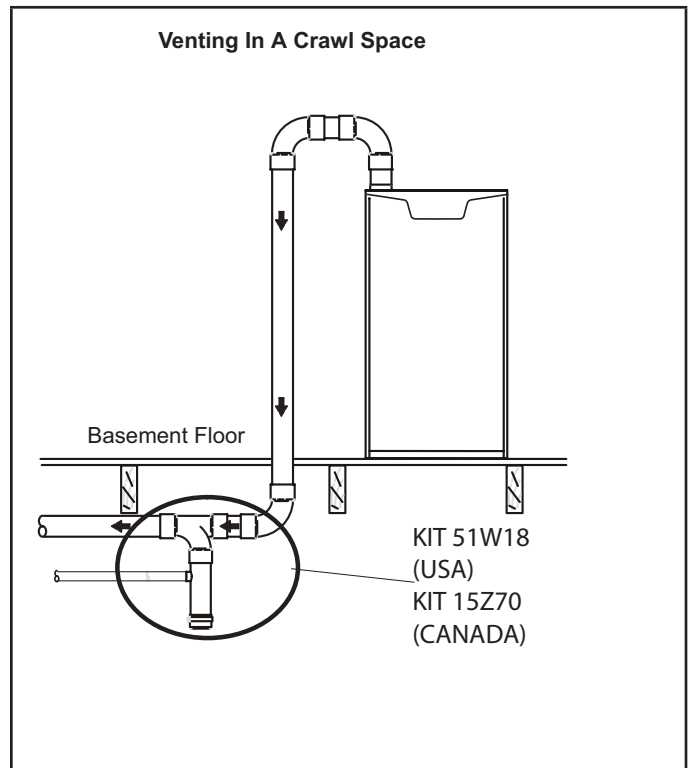

FIGURE 47
Lennox provides kit 51W18 (USA) kit 15Z70 (Canada) to install 2" or 3" PVC exhaust piping through the floor joists and into the crawl space. See FIGURE 47. This kit can also be used as a supplemental drain for installations with condensate run back in the vent pipe (ie. long horizontal runs, unconditioned spaces, etc.).
- 2 - Use a large flat head screw driver or a 1/2" drive socket extension and remove plug (figure 47) from the cold end header box at the appropriate location on the side of the unit. Install provided 3/4 NPT street elbow fitting into cold end header box. Use Teflon tape or appropriate pipe dope.